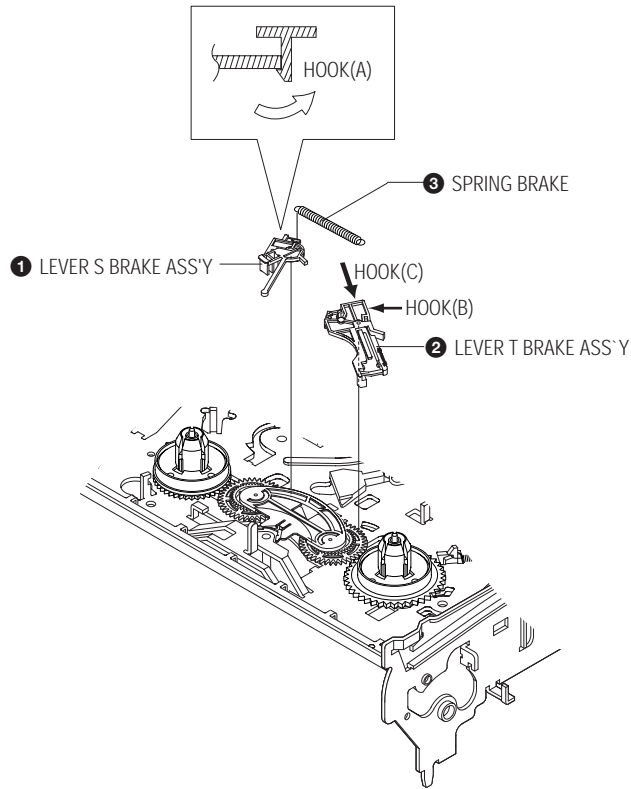

Fig. 2-25 Lever Brake S, T Ass'y Removal
- 1) Remove the Lever Brake S Ass'y (Refer to Fig 2-25).
- 2) Remove the Spring Tension Lever ❶.
- 4) Lift the Lever Tension Ass'y ❷ & Band brake Ass'y ❸.
- 1) Release the Hook [A] and the Hook [B], [C] in the direction of arrow as shown in Fig 2-25.
- 2) Lift the Lever S, T Brake Ass'y ❶, ❷ with spring brake ❸.